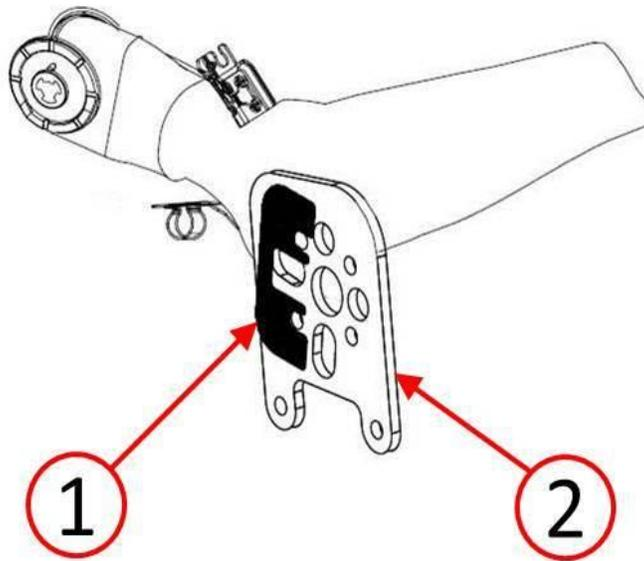

Fig. 4 Front Shim Location - Left Side Shown
To correct an out of specification Toe-in condition, insert the front shim (1) between the rear axle and the spindle as shown in (Fig. 3) and (Fig. 4).